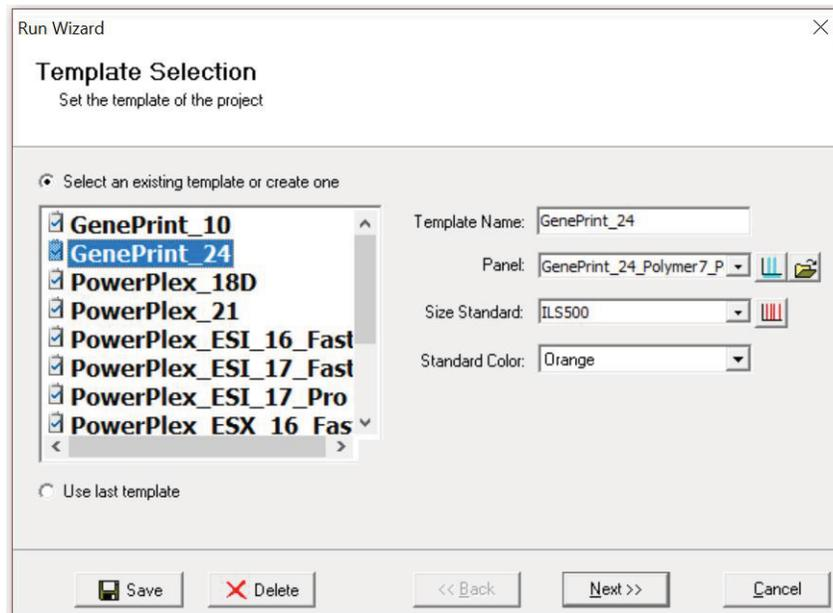

Figure 31. The 'Template Selection' window.
- Click on **Run** in the Magic Wizard or click the **Run Project** icon (green arrow) in the toolbar. The 'Template Selection' screen will appear (Figure 31). Select the GenePrint_24 template and the settings shown in Figure 31. Verify the panel that you created in Step 6 is selected in the Panel drop-down field. The Size Standard must be ILS500 and the Standard Color must be Orange. Select **Next**.